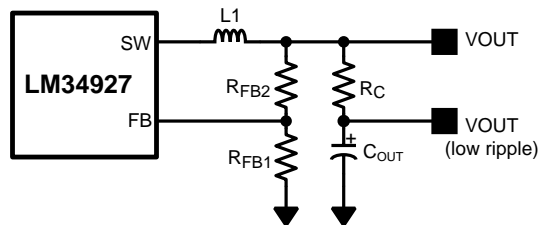

Figure 16. Low Ripple Output Configuration
This regulator regulates the output voltage based on ripple voltage at the feedback input, requiring a minimum amount of ESR for the output capacitor (C_{OUT}). A minimum of 25 mV of ripple voltage at the feedback pin (FB) is required for the LM34927 device. In cases where the capacitor ESR is too small, additional series resistance may be required (R_C in Figure 16).
For applications where lower output voltage ripple is required, the output can be taken directly from a low ESR output capacitor, as shown in Figure 16. However, R_C slightly degrades the load regulation.